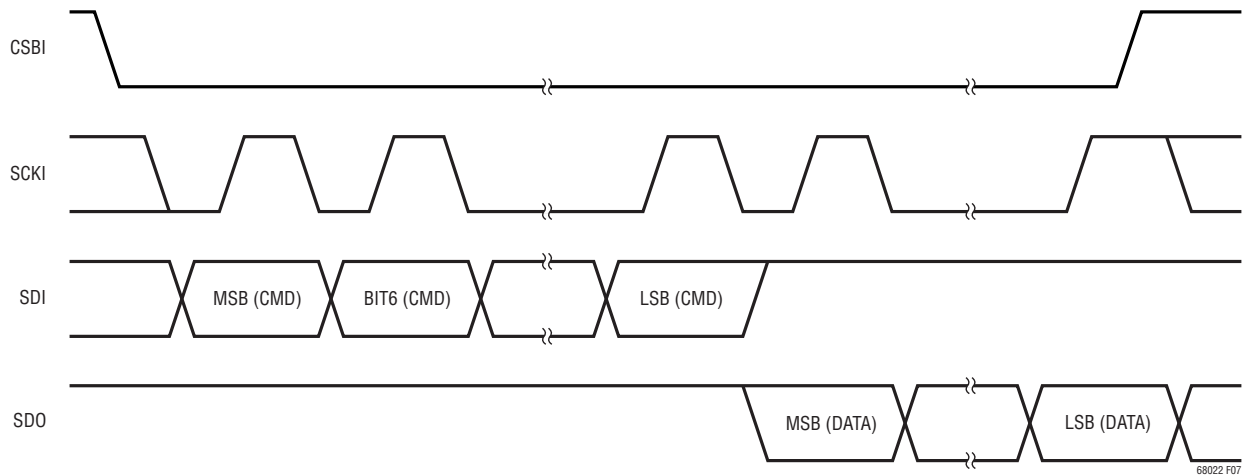

Figure 7. Transmission Format (Read)
*Data Transfers:* Every byte consists of 8 bits. Bytes are transferred with the most significant bit (MSB) first. On a write, the data value on SDI is latched into the device on the rising edge of SCKI (Figure 6). Similarly, on a read, the data value output on SDO is valid during the rising edge of SCKI and transitions on the falling edge of SCKI (Figure 7).